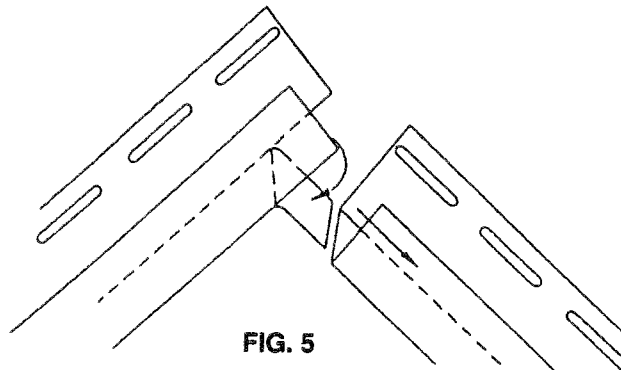

FIG. 5
- E. At the top, cut the horizontal J - Channel to overlap the vertical J - Channel on both sides. Cut 1/2" tabs at each end of top channel and bend them down into the side channel for proper water run off. (See Figure 5)